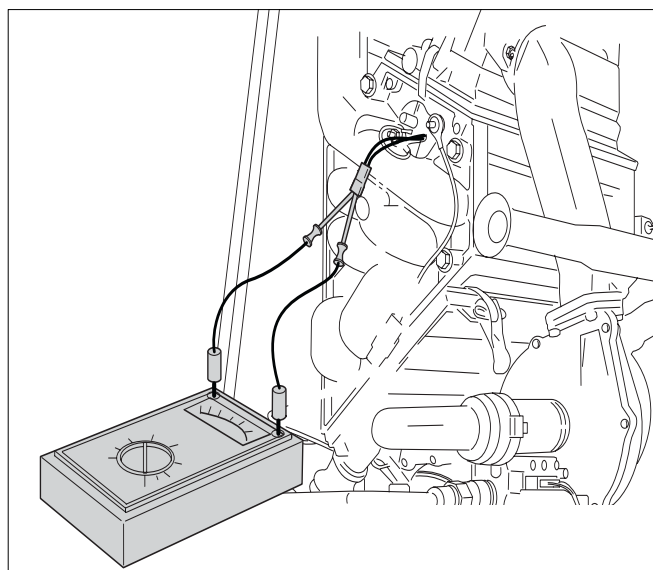

Fig. 59 Checking the hot surface ignitor
- Test the resistance of the hot surface ignitor on the plug. A resistance value between 50 – 300 Ω means that the hot surface ignitor is OK (see fig. 59).